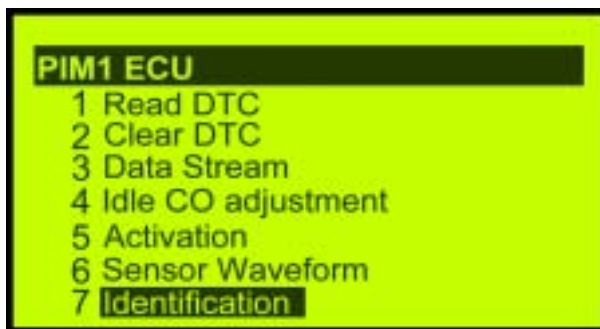
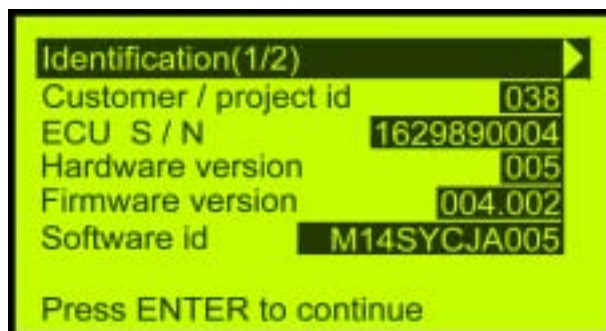

Fig 47
Fig 48
10. With the ▲▼ cursor to select “7. Identification” analysis (as fig 47), press ENTER to enter into the Identification analysis menu. (as fig 48, 49).